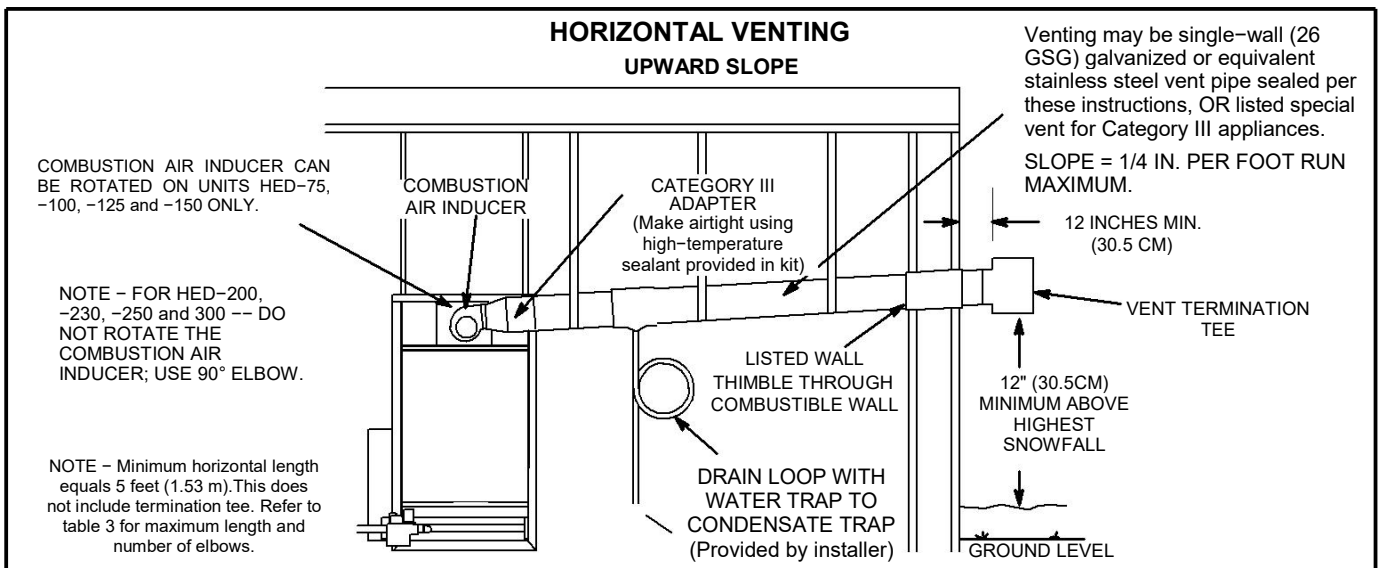
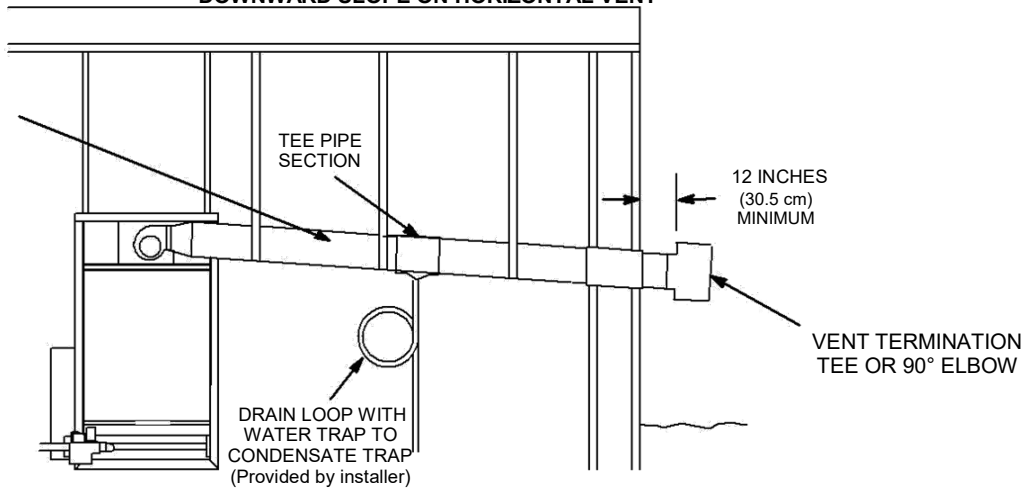

FIGURE 4
FIGURE 5
- 12 – Select a wall termination point that will maintain 1/4" rise per foot slope of horizontal run of vent pipe. In areas where authorities having jurisdiction permit, a downward slope of maximum 1/4" per foot is also acceptable. Condensate drainage can be collected in a tee pipe section (figure 4) with drain loop similar to one used for upward slope vent, or allowed to drip through the vent termination, if permitted by authorities (Fig 5).